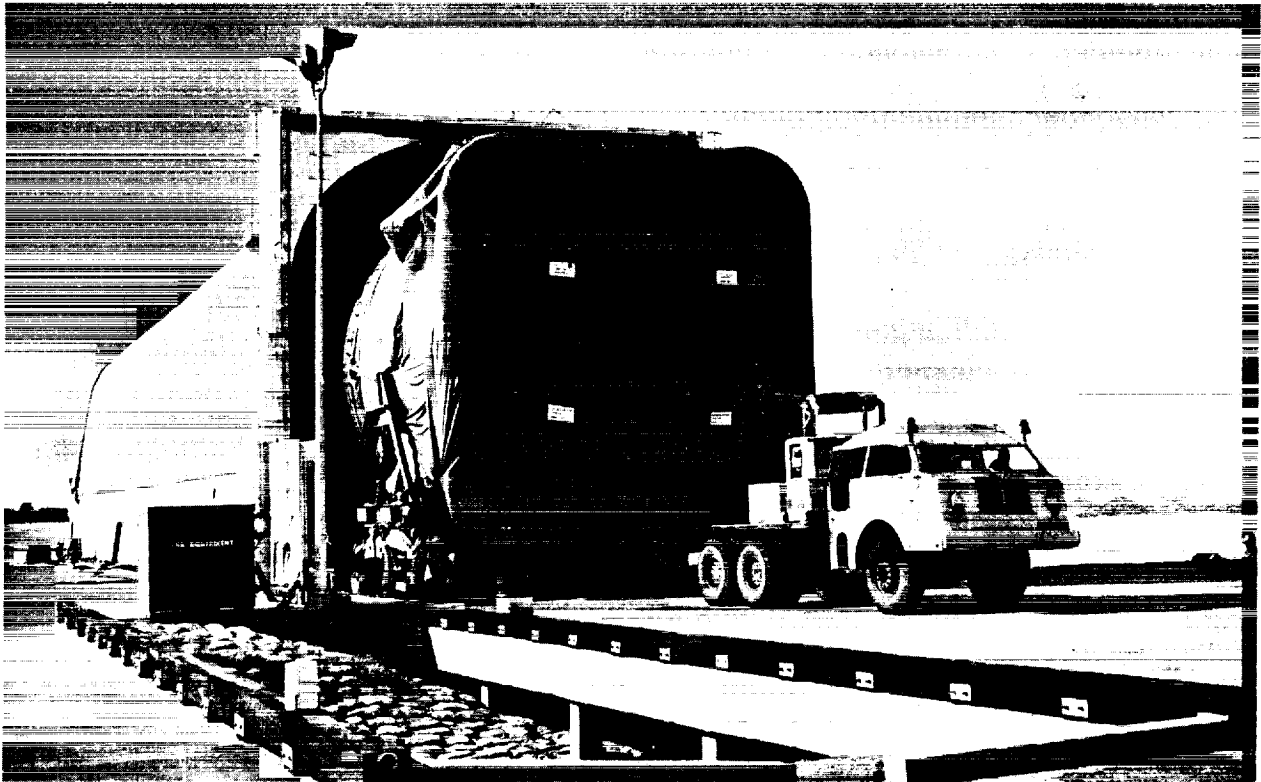

Figure 6-2. Barge Loading - Poseidon, Point Barrow, or Orion (Sheet 1 of 4)
6-4. BARGE LOADING - POSEIDON, POINT BARROW OR ORION. Load S-IC stage and associated equipment on barge per figure 6-2 as follows:
- i. Install lateral turnbuckles (90M01729-1) to the front transporter dolly per figure 6-2, detail A.